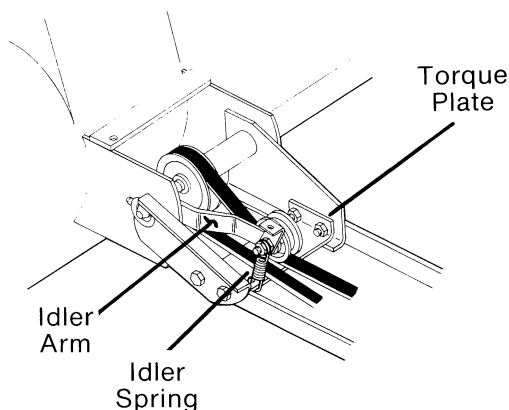

FIG. 7
- I. Hook one end of idler spring in hole in torque plate. (Fig. 7) Hook other end of idler spring between nuts on idler arm.